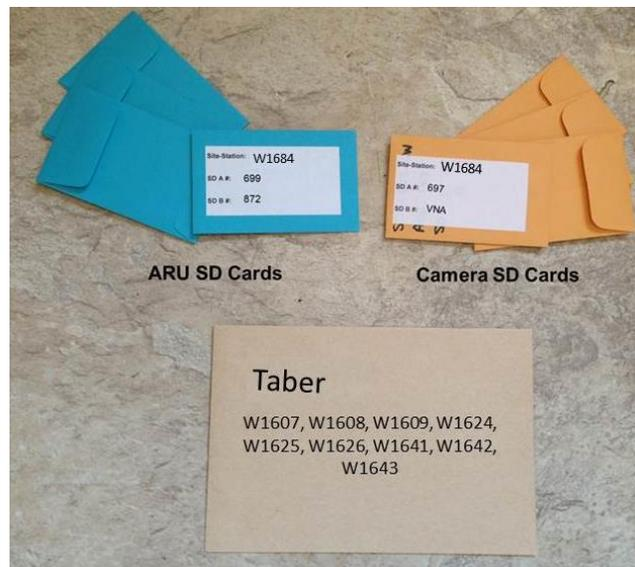

Figure 8. SD card management following unit retrieval from the field.
- Place coin envelopes from one block (18 envelopes in total - 9 camera, 9 ARU) into a larger envelope (~4.5"x6.75"), and label it with the site numbers and block name (Figure 8)